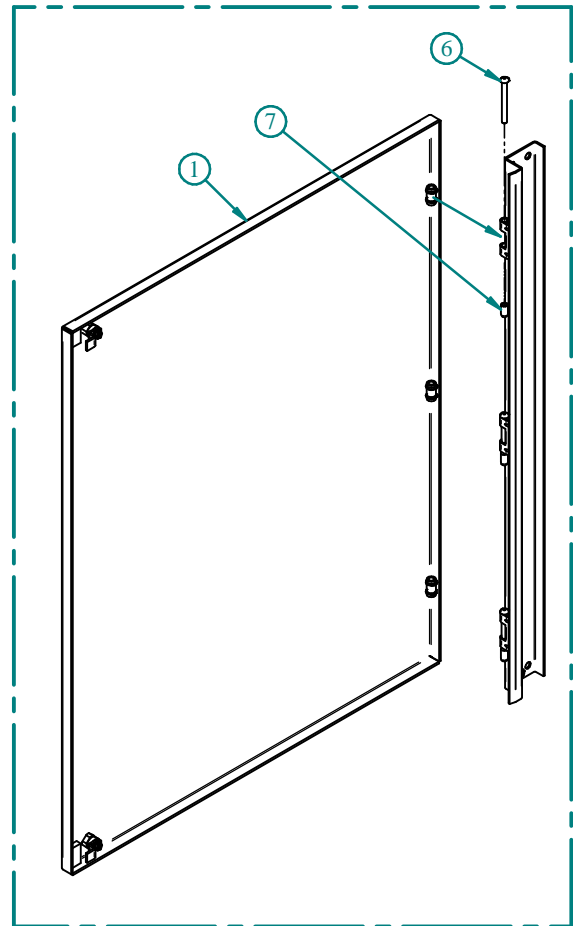

FIG. 7
6. Install swing panel/frame. (Fig. 7)